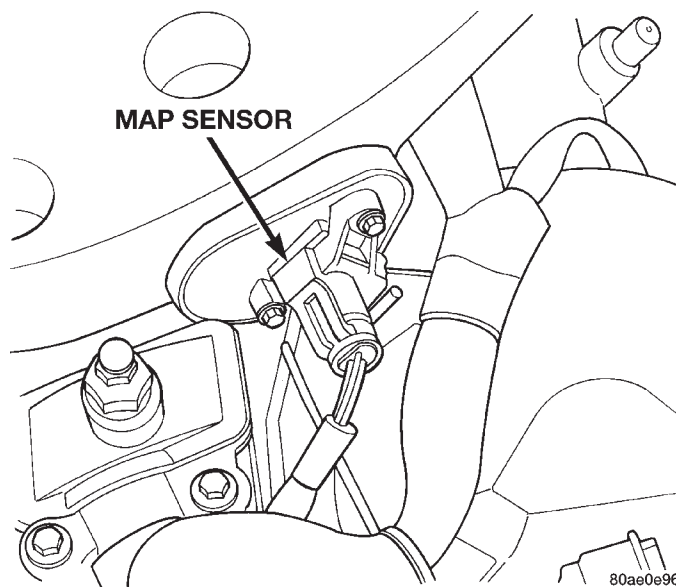

Fig. 30 MAP Sensor—2.7L Engine
(2) Check the battery terminal connections for loose cables and corrosion.
(3) Check the MAP sensor electrical connection (Fig. 30) or (Fig. 31).